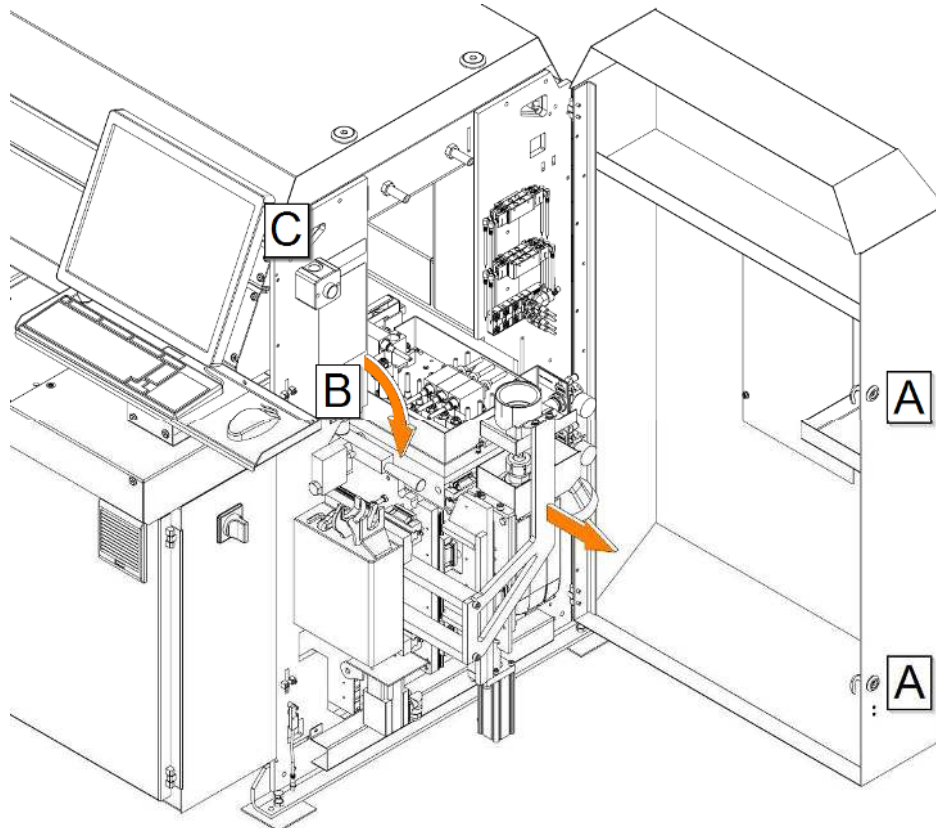

Fig.25- Processing unit in tool change position
- With the blue selector button (C, see Fig.25, on pg.42) as per the explanation sign (on the side of the selector button), initially the horizontal spindles, then the groove cutter unit and finally the vertical spindles can be reset. This function serves to change the tools more easily.